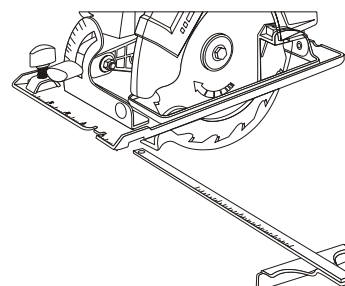

Figure 9
1. Loosen the edge guide adjusting knob. (Figure 9)
- Set the rip guide foot at the required width. (Figure 9)